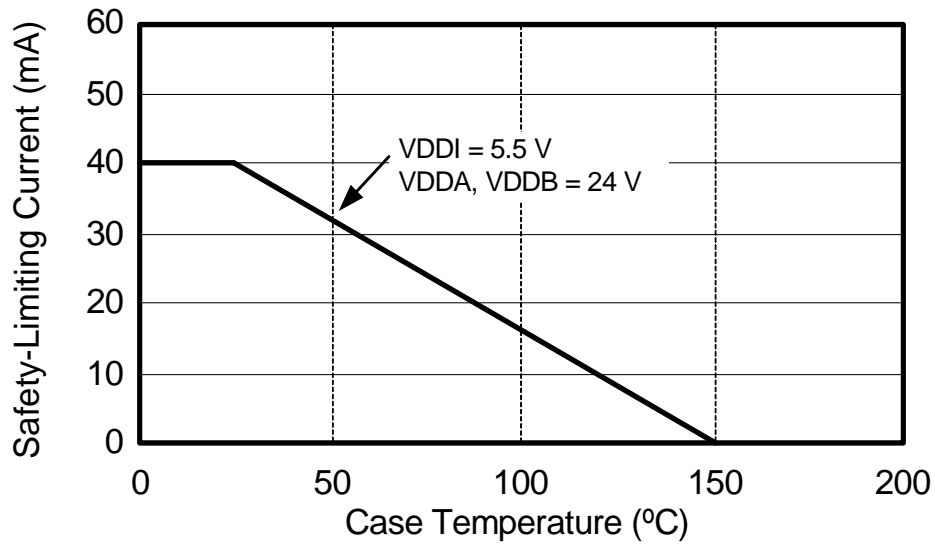

Figure 4. (NB SOIC-8) Thermal Derating Curve, Dependence of Safety Limiting Values with Case Temperature per DIN EN 60747-5-2
- Maximum value allowed in the event of a failure; also see the thermal derating curve in Figure 4.